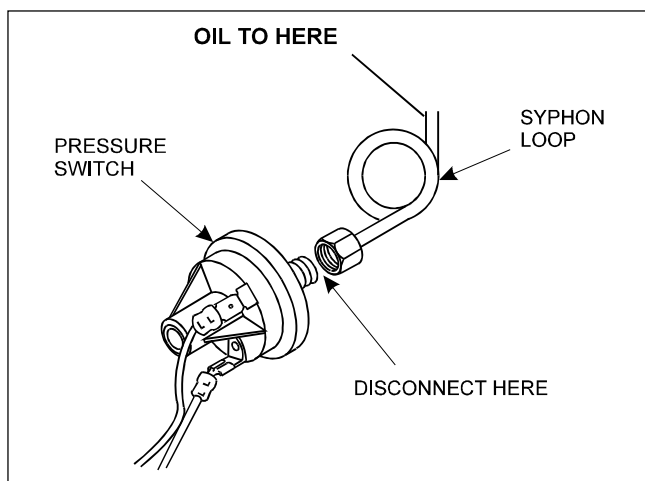

Figure 19. Pressure Switch Copper Tubing
8. Disconnect the pressure switch copper tubing (see Figure 19).
1. Attach the copper tubing to the pressure switch and fill the loop with SAE 50, non-detergent oil (see Figure 19).